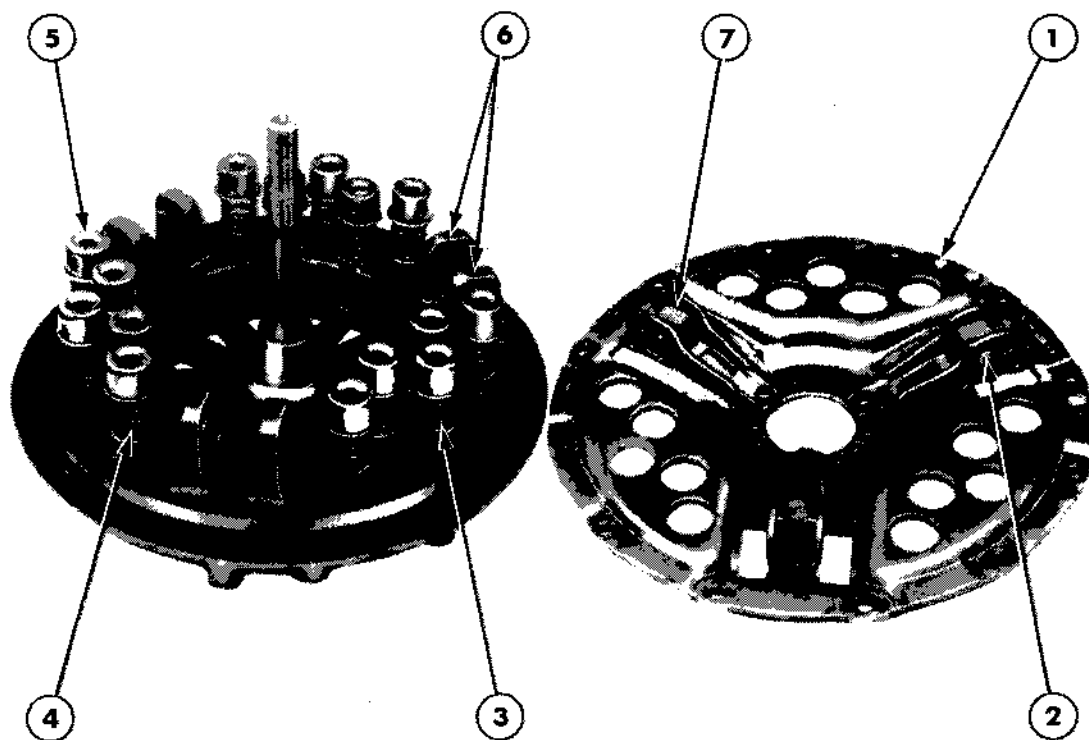

Figure 18
6. Lift the clutch cover from the assembly. Withdraw the release lever pins and levers from the clutch cover, Figure 18.